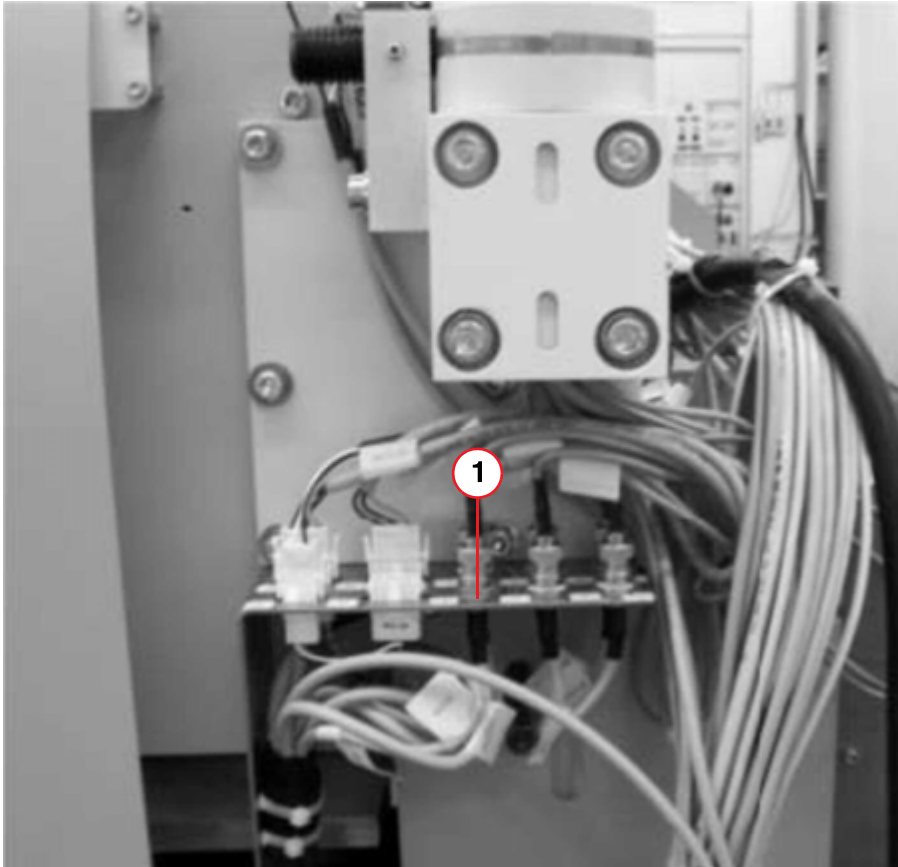

Fig. 35: Support arm connections
- Screw partial harness W650 with the interface plate onto the unit connection via 2 screws M4 x 10 DIN 912 (1/Fig. 35 / p. 32).